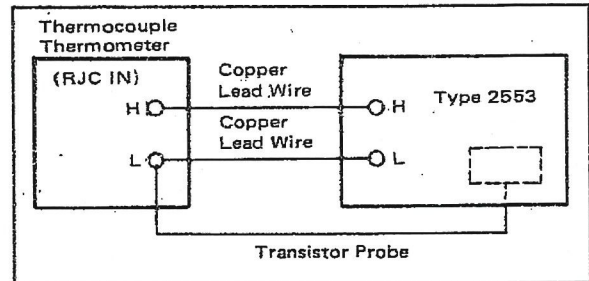
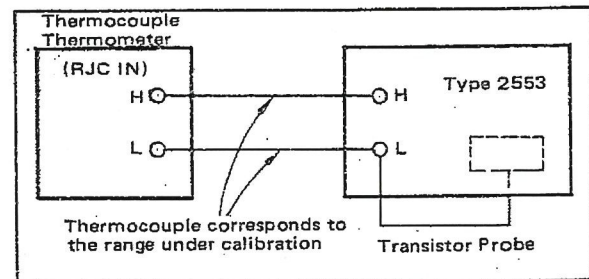

Figure 3-2.
Figure 3-3.
- (1) Connect the transistor probe to the instrument rear panel connector. Then confirm that the INT RJ lamp lights.
- (2) Set the range selector switch to R.J. TEMP. and confirm that the instrument indicates the transistor probe temperature (room temperature).
- (3) To detect terminal temperature of a thermometer under calibration with transistor probe, connect the thermometer to the instrument with copper lead wires as shown in Figure 3-2 and sense the instrument output terminal temperature using the transistor probe. Use the thermocouples corresponding to the range of the thermometer under calibration for lead wires as shown in Figure 3-3.